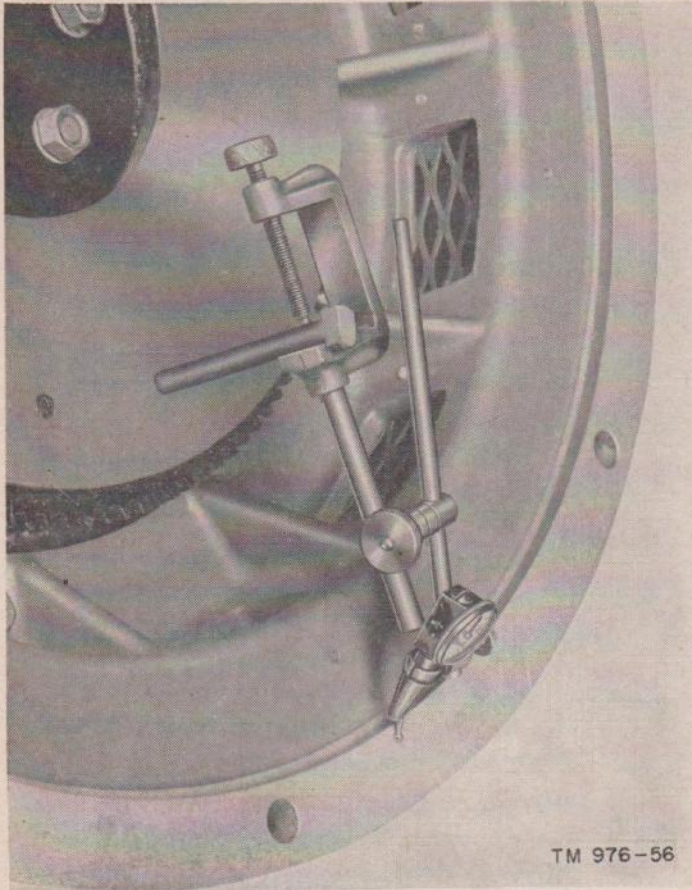

Figure 56. Checking face of flywheel housing with flywheel.
- (3) Check the face of the flywheel housing with a dial indicator as shown in figure 56. The housing should be parallel to the flywheel face within .003 inch. If the housing is not parallel, place shims between the engine block and the flywheel housing. Then recheck until the desired reading is reached. Be sure to tighten the bolts before each recheck.